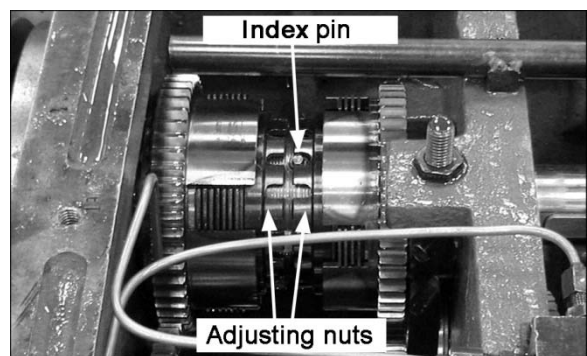

Figure 43 – Spindle Clutch Adjustment
4. Use a screwdriver to push in the index pin (Figures 43 and 44). The pin is spring loaded.